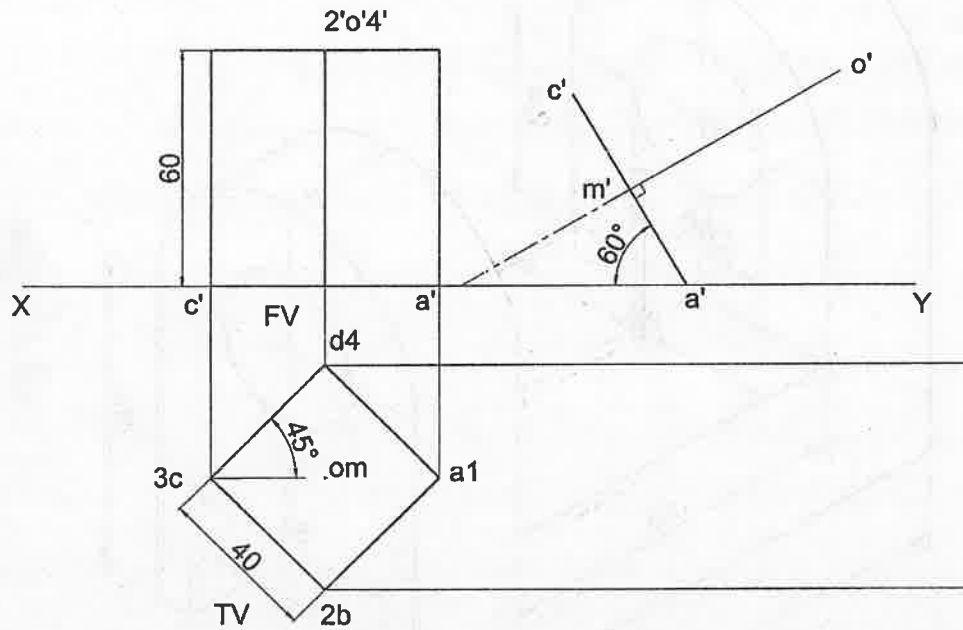

Figure 5
- (iii) **Figure 5** given below shows the Top View of a square base prism in first angle method of projection. Copy the given figure. Draw the Front View and Top View if the axis of the prism is inclined at 30° to Horizontal Plane and Top View of the axis is inclined at 45° to Vertical Plane.